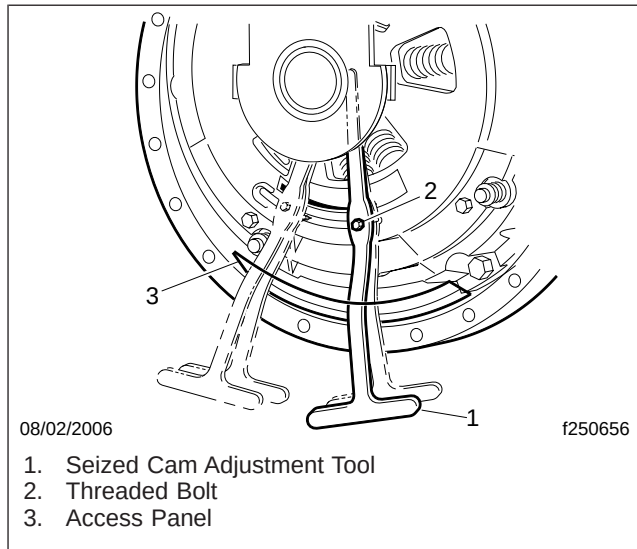

Fig. 3, Releasing a Seized Cam
1. While an assistant holds down the clutch pedal, insert the tip of the Seized Cam Adjustment Tool through the access panel and position it under the bearing. See Fig. 3.
2. Align the tool so that the threaded bolt extends into the slot in the cam. See Fig. 3.